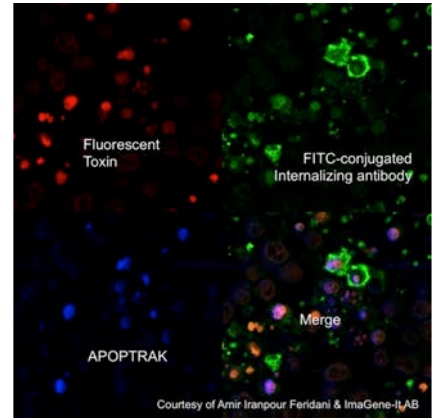

Figure 1. Cells treated with fluorescent toxin, and labeled with FITC-conjugated internalizing antibody in the presence of APOPTRAK™
**DETECTING APOPTRAK™ SIGNALS:** (see Fig. 1)